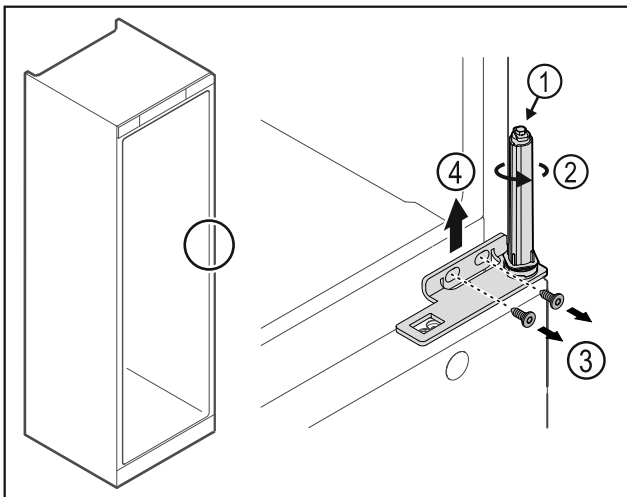

Fig. 27
- ▶ Do not disassemble the door closing system Fig. 27 (1).
- ▶ Turn the closing system Fig. 27 (2) until it clicks.
- ▶ Loosen the screws Fig. 27 (3) and lift off the hinge Fig. 27 (4).